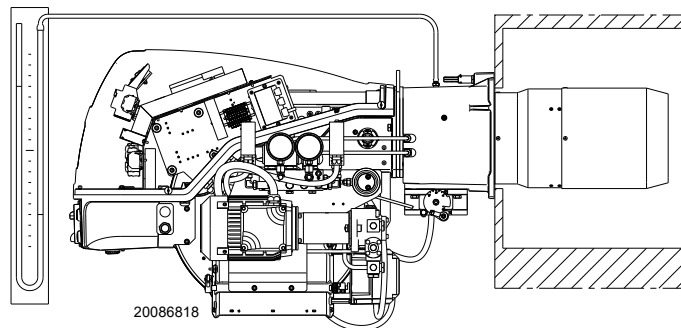

Fig. 42
- Fit a U-type manometer (Fig. 42) to the gas pressure test point on the sleeve. The manometer readings are used to calculate the MAX. burner power using the diagram on page 25.